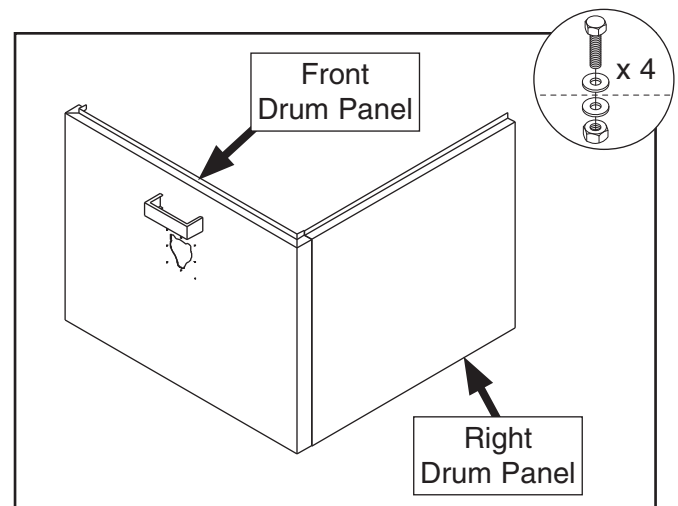

Figure 30. Front drum panel attached to right drum panel.
37. Attach front drum panel to right drum panel with (4) $\frac{5}{16}$ "-18 x $\frac{3}{4}$ " hex bolts, (8) $\frac{5}{16}$ " flat washers, and (4) $\frac{5}{16}$ "-18 hex nuts (see **Figure 30**).